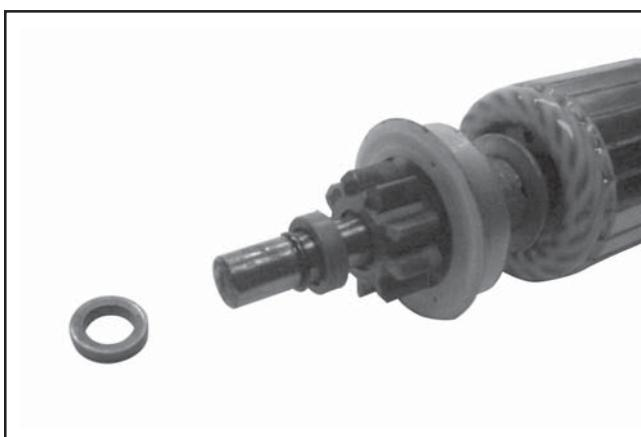

Figure 8-61. Starter Drive and Stop Components.
9. The stop collar is held in place by being snapped over the retainer from the bottom-up. The retainer is positioned in a groove in the armature shaft. To access the retainer, the stop collar must be pushed **back or down** towards the drive pinion. See Figure 8-61.